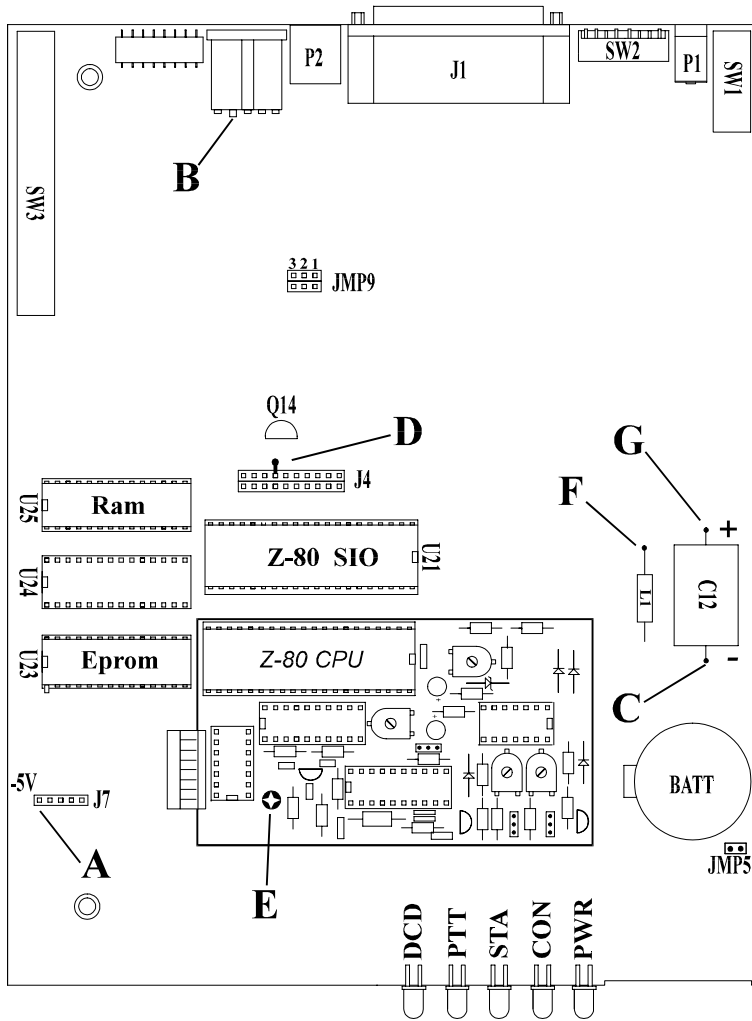

Figure 1a-- MFJ-1270/1270B/1274
**NOTE:** Throughout this instruction we will refer to Figures 1a or 1b, as well as Figures 2a or 2b. These different figures are pictorial diagrams of different MFJ TNC models. Please be sure to use the proper diagram to find the different point references mentioned in this instruction.
5. Remove the bbRAM memory backup jumper **JMP 5** on the TNC. Please see Figure 1a for the location of JMP5.
9. Locate pin 1 of the X-1J EPROM. Pin one is the bottom left most pin when the notch matches the notch in Figure 1a. If your TNC is an MFJ-1270B/1274, or an early MFJ-1270C/1274C, then bend pin 1 of the EPROM outward so when you install the EPROM pin 1 is not inserted into the IC socket. Be very careful not to break pin 1 off from the eprom. This will render the eprom useless.
13. Locate the plated through hole **D** behind the 20-pin header J4 (see Figure 1a. Solder the other end of the 6" violet wire into hole **D**. **DO NOT** apply too much heat as the insulation of the wire will melt. If the wire is pushed too far through the board it may short against the chassis. Once both ends of this wire are connected, route the wire neatly to prevent damage by pinching.
14. Find the white IDC molex connector with the (5) wires attached to it. Snip the bare ends of the wires to a length of 1/16".